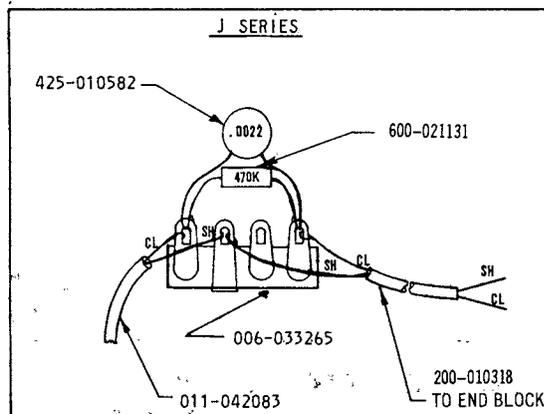
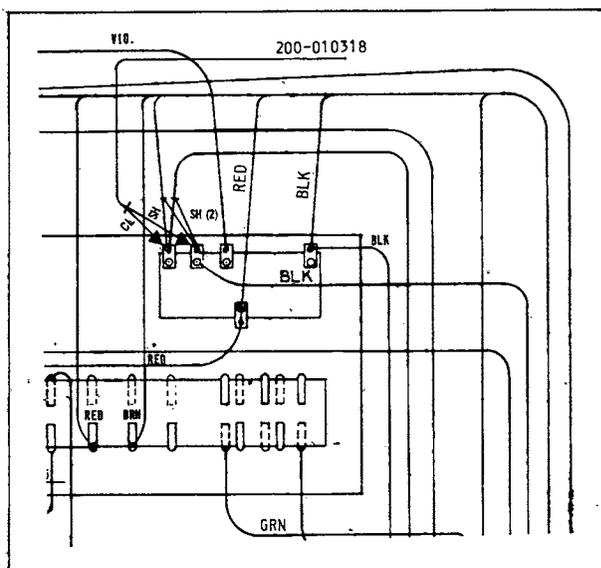

Figure A-18.
Figure A-20.
- 5-6. **TERMINAL STRIP ASSEMBLY.** — Assemble terminal strip assembly as shown in Figure A-18, using .0022 uf capacitor, 425-010582, and 470K resistor, 600-021131. Fasten terminal strip to right of top shelf (rear view) 5" from rear edge and 1" from inside right-hand wall. Use 1 screw 884-050734.
- d. Solder free ends of wire and plug assembly, 011-042083, to terminal strip assembly, as shown in Figure A-18.
- f. Solder one end of shielded lead 200-010318 to terminal strip as shown in Figure A-18. Solder other end to upper left-hand end block as shown in Figure A-20.